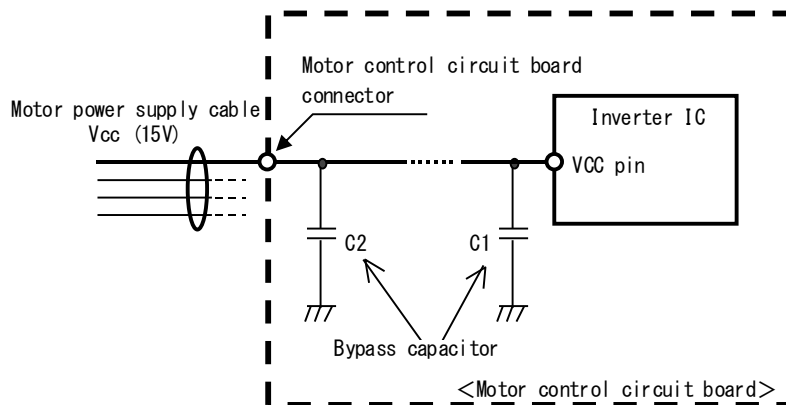

FIGURE 4.8.1 Example of Mounted Surge Suppression Devices
- ① Mount a bypass capacitor C1 near the pin of the IC. Use a capacitor that has excellent frequency characteristics, such as a ceramic capacitor. As a guide, a capacitor of around 1μF is recommended.
- ② It is more effective to mount a surge suppression device, such as bypass capacitor C2 shown in Fig. 4.8.1, close to the connector of a motor control circuit board.